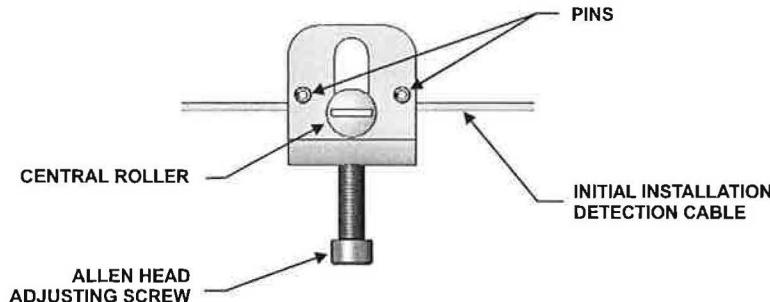

Figure 5-22. Cable Tension Block Assembly
5. Locate the Cable Tension Block Assembly. With the screw threaded out on the Cable Tension Block Assembly, thread the detection cable through the cable tension block (see Figure 5-22).